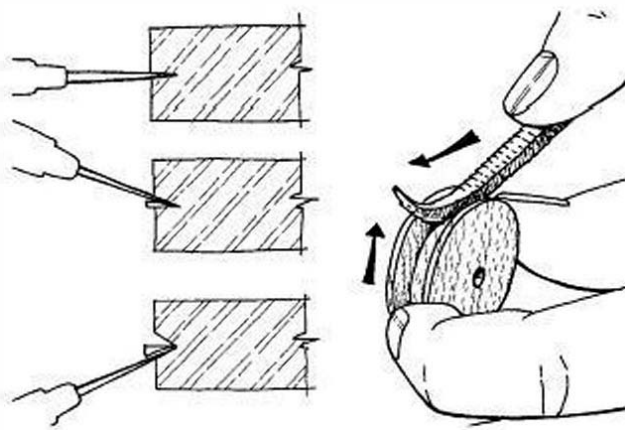

FIGURE 18-7
- 3** One blank at a time, take the knife and the riffler file and cut and work the V-groove (Figure 18-7). Run three pencil lines around the thickness of the wood so that you have four bands—two equal outer bands at $\frac{1}{8}$ " and two inner side-by-side bands at $\frac{1}{16}$ ". Run a stopcut down between the two $\frac{1}{16}$ " bands, and cut into the stop-cut to make the V-section. Do this on both wheels.